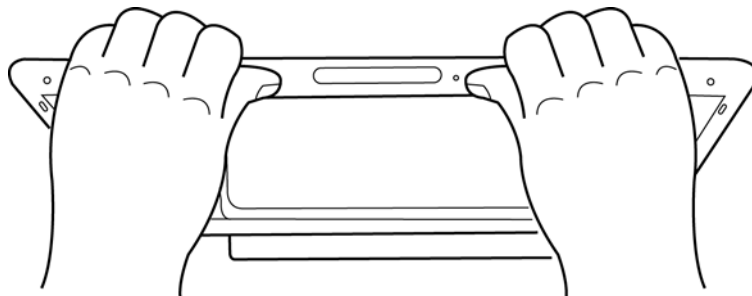

Figure 4.38 Pressing the bezel upside hooks
6. Press the bezel upside hooks as shown in Figure 4.38.